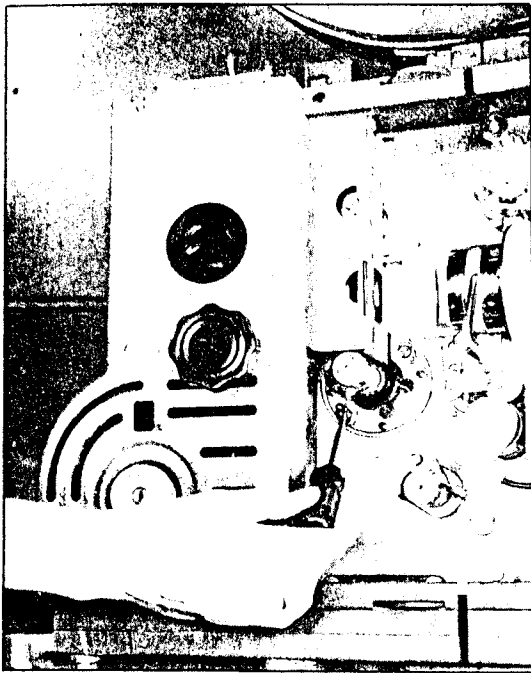

Figure 17.
- c. Move to the operating side of the projector. Open the film gate and loosen the two screws which hold the "dogs" onto the intermittent housing assembly. The screws need not be completely removed, but merely loosened enough to allow the "dogs" to be pushed free of the housing toward the center on the intermittent movement. Refer to Figure 17.